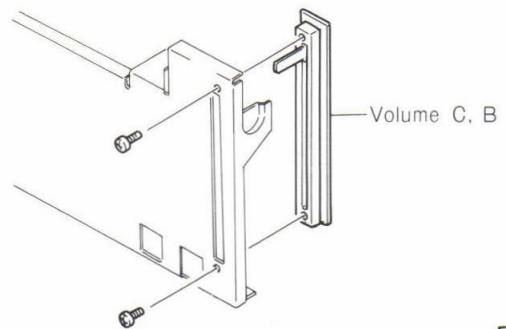

Fig. 5
- 2) Remove the 2 screws. (See Figure 5)